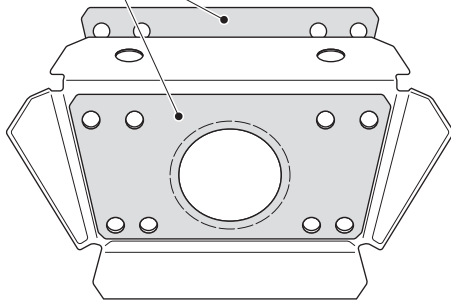

Fig. 13.6
3. Attach a squeeze connector (not supplied) to your conduit (**Fig. 13.6**). Insert the conduit through the terminal box mounting plate (reducer plate fitted). Allow enough cable to connect the wires to the terminal block, earth and neutral posts (**Fig. 13.6**).